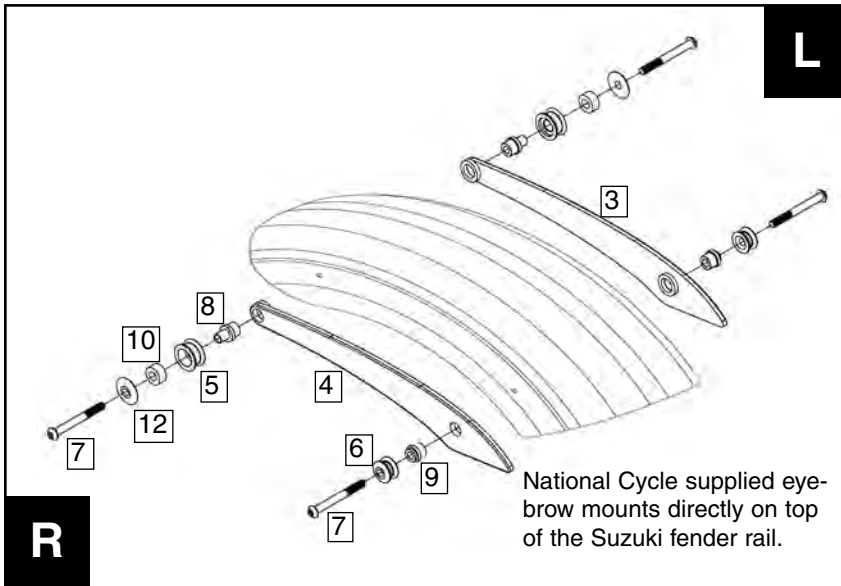

Figure 1
2. Assemble Front Spool assembly into the Right Eyebrow (item 4) and through the fender. Do not fully tighten. Repeat for Rear Spool assembly. Do not fully tighten. This will allow some movement, which aids in the Side Plate installation. (5mm Hex Wrench) Figure 1.